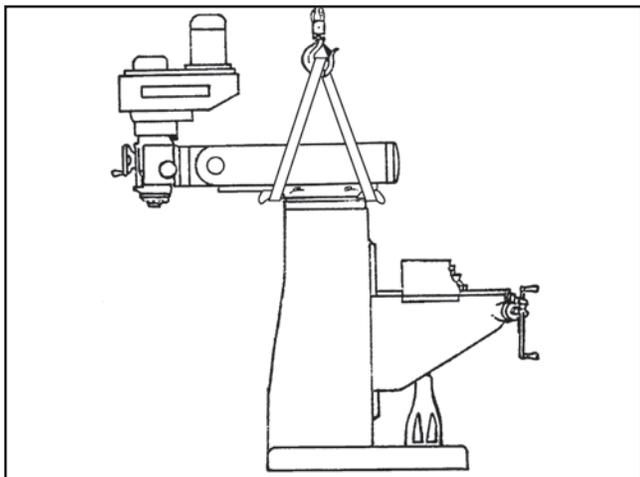

Figure 9. Using lifting straps to lift the mill.
1. Position the head in an upright position, swivel the ram 180°, as shown in **Figure 9**, then lock it in place (refer to **Head Movement** on **Page 26** and **Ram Movement** on **Page 27** for detailed instructions).
2. Position the lifting straps under the ram, as shown in **Figure 9**, with padding between the straps and the mill to protect the ram way.